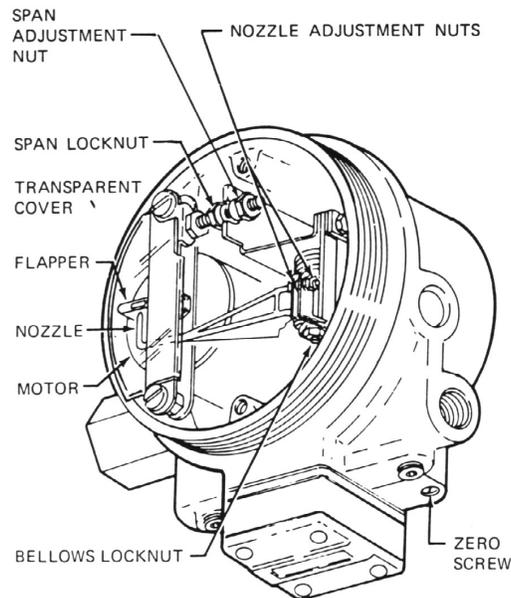

Figure 8.
2. Apply 12 mA (50%) input to converter and adjust output (zero screw) to 60 kPa or 9 psi (50%). See Figure 8.
4. Move 5/32-inch nozzle adjustment nuts (see Figure 8) to obtain 60 kPa or 9 psi output within 2% (1.6 kPa or 0.25 psi). Tighten nuts.